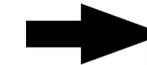

Figure 4
3. Place monitoring device next to the Base, matching PAIR on the device to PAIR on the Base (Fig. 4). *Note: PAIR/Pair Status Indicator on device will illuminate when in range.*